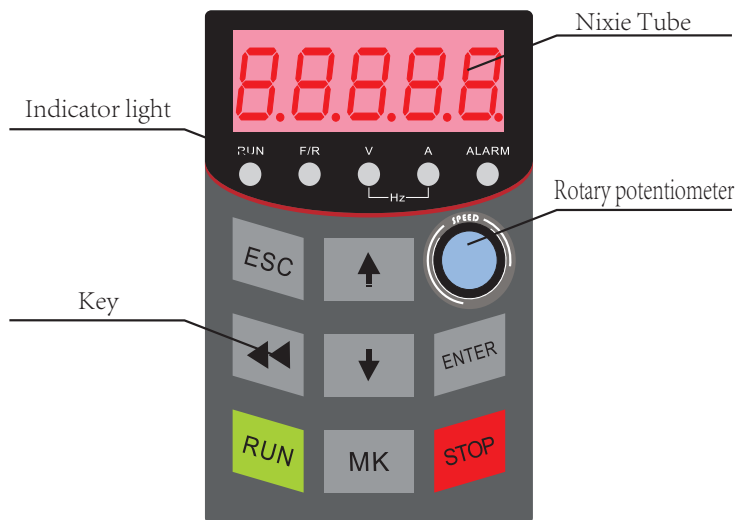

Figure4-1 Keyboard introduction
The keyboard of ES130(B) series compact vector inverter consist of four parts: 5-digit 8-segment Nixie Tube, 5 indicator light, 8 keys and 1 rotary potentiometer. Users can operate by keyboard to realize start, stop, condition monitoring, fault inquiry, parameter revision and speed adjustment etc. Keyboard appearance showing as Figure4-1.